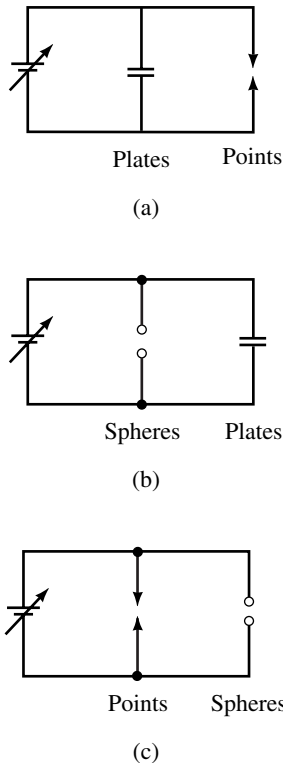

FIGURE 10-31 Source voltage is increased until one of the gaps breaks down. (The source has high internal resistance to limit current following breakdown.)
19. Figure 10-31 shows several gaps, including a parallel-plate capacitor, a set of small spherical points, and a pair of sharp points. The spacing is the same for each. As the voltage is increased, which gap breaks down for each case?
20. If you continue to increase the source voltage of Figures 10-31(a), (b), and (c) after a gap breaks down, will the second gap also break down? Justify your answer.